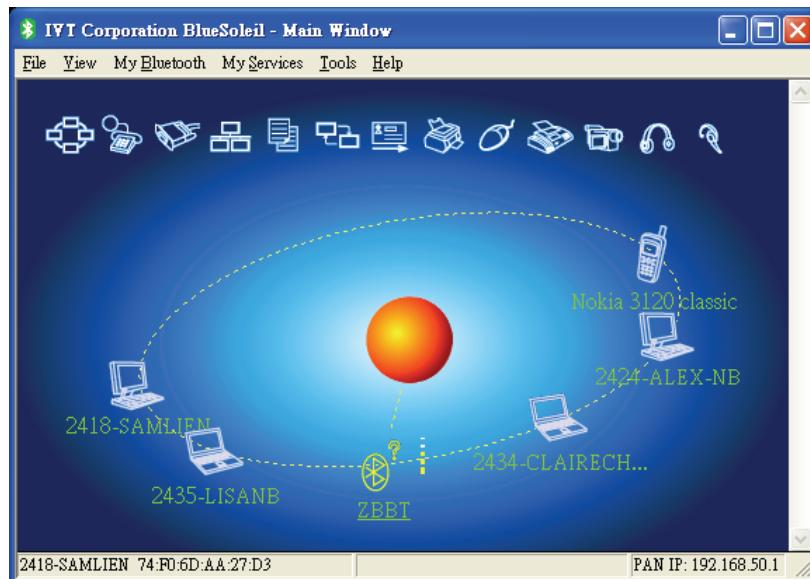

Fig 1
2. In Fig 1, a list of Bluetooth devices are shown on the screen. Z-2121 will appear as “ZBBT”. Double click “ZBBT” to make the connection. Fig 2 appears prompting for password.